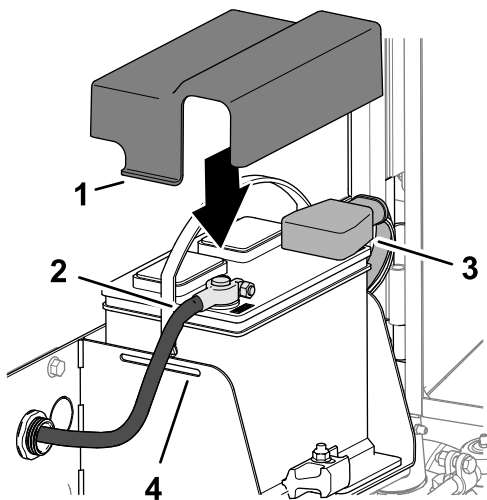

Figure 85
1. Install the positive battery cable (red) to the positive (+) battery post (Figure 85).